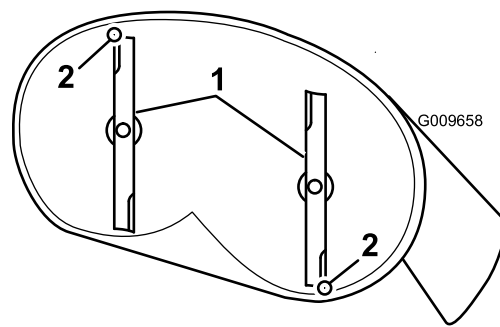
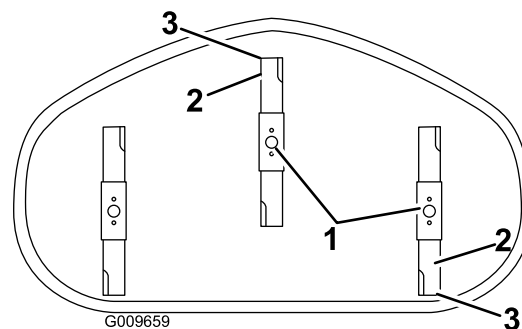

Figure 60
Figure 61
5. Measure from the tip of the front blade to the flat surface, and the tip of the rear blade to the flat surface (Figure 60 and Figure 61).
4. Carefully rotate the blades so they are facing front to rear (Figure 60 and Figure 61).
9. After adjustment, check the front-to-rear slope again, continue adjusting the nut until the front blade tip is 1.6 to 7.9 mm (1/16 to 5/16 inch) lower than the rear blade tip (Figure 60 and Figure 61).